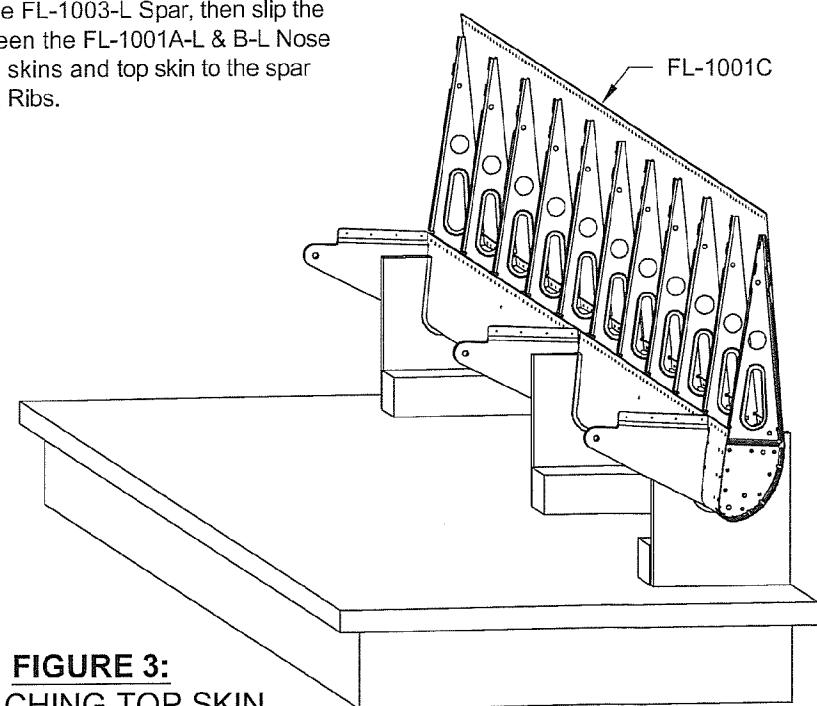

FIGURE 3:
Step 3: Put the flap in the cradles as shown in Figure 3. Remove the clecos along the top flange of the FL-1003-L Spar, then slip the FL-1001C Top Skin into place between the FL-1001A-L & B-L Nose Skins and the spar. Cleco the nose skins and top skin to the spar and FL-1005-L and FL-1005-R Main Ribs.
Step 5: Rivet the FL-1001C Top Skin to the FL-1005-L and FL-1005-R Main Ribs. Don't, however, install the two aft-most rivets (AN426AD3-3's, see Page 22-9, Figure 3) in each main rib; these will be back driven later.